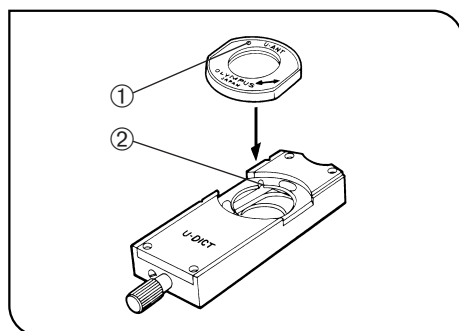

Fig. 60
3 Attaching the Analyzer and DIC Slider (Figs. 60 to 62)
2. Align the index ① of the U-ANT analyzer and the positioning groove ② of the U-DICT DIC slider and drop the analyzer into the analyzer mount of the DIC slider. (Fig. 60)